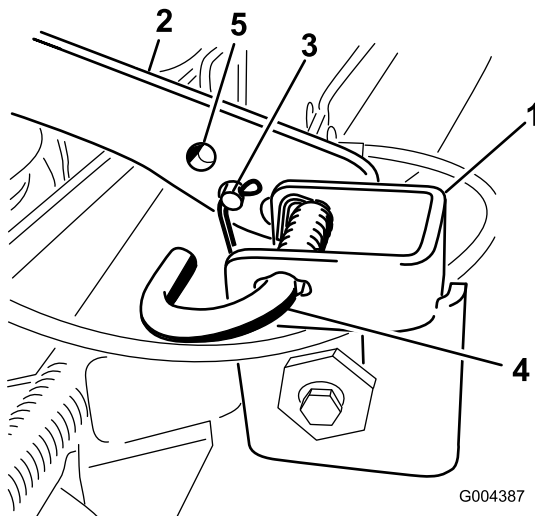

Figure 12
15. From the right or left side of the tractor, locate the rear deck lift arm (Figure 12).
18. Remove the cotter pin and clevis pin that secures the lift cable to the lift arm (Figure 12).
19. Remove the clevis pin and move the lift cable end loop to the hole indicated in Figure 12. Secure the lift cable with the clevis pin and cotter pin previously removed.